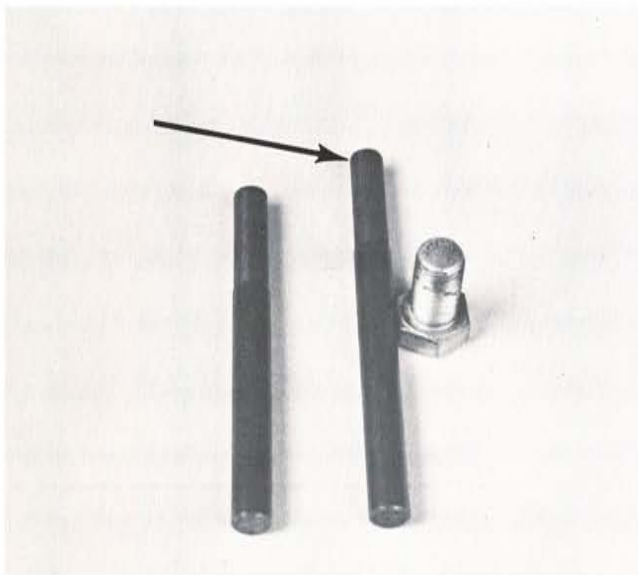

Fig 3
6. Using T.C. puller, PN 31802, insert the longer of the two studs into fixed flange. Screw the bolt into end of fixed flange until flange is removed. (Fig 3)